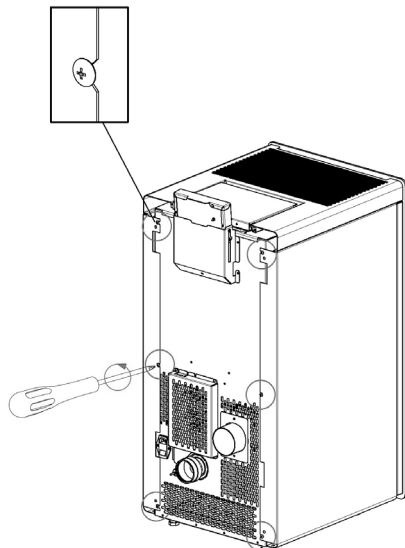

Fig. 70 - Loosen screws
- Loosen the 4 back screws (see **Fig. 70**).
- Loosen the 6 back screws (see **Fig. 70**).